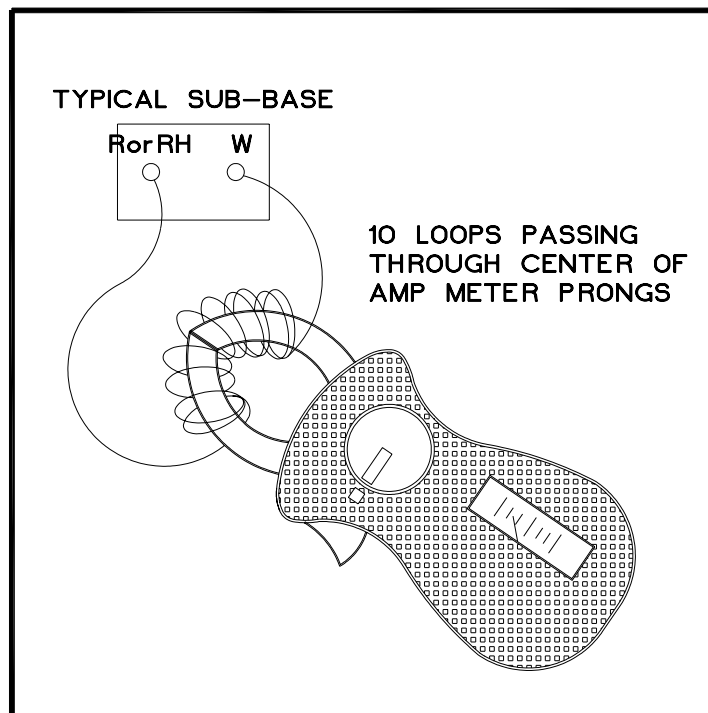

Figure 6: Analog Ammeter w/ Wire Loops to Boost Reading
- i. Wrap 10 loops of single strand, insulated, thermostat wire around the prongs of an ammeter, refer to Figure 6. Set the scale to the 1 to 5 or 1 to 6 amp. scale.